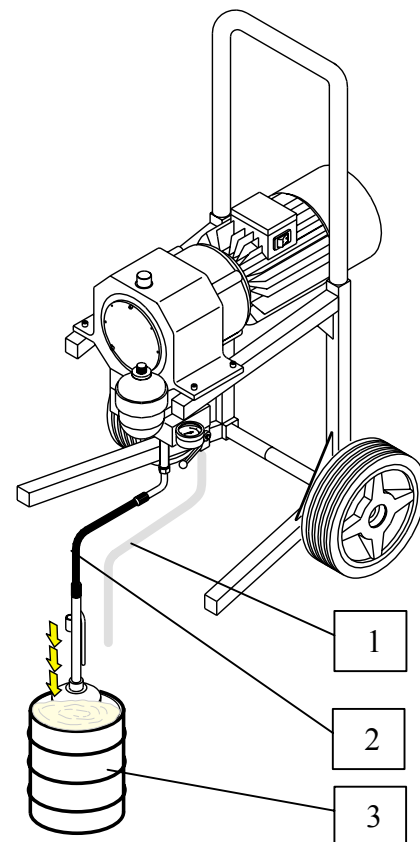

Fig.15
- 4) Insert the suction pipe into the container of the product to be delivered and keep the discharge pipe raised (fig. 15).